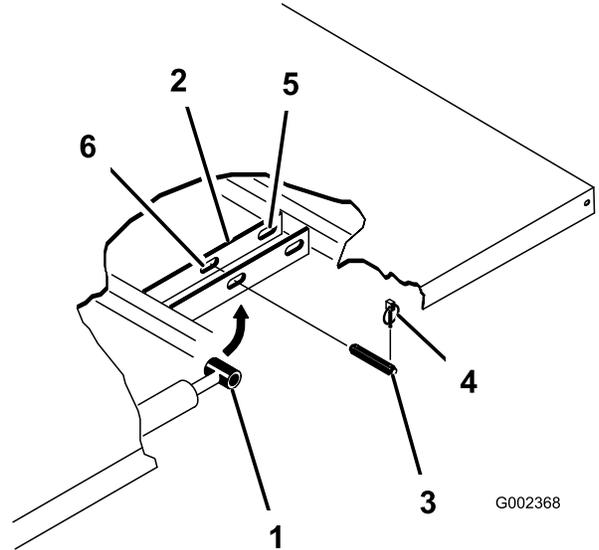

Figure 42
4. Remove the lynch pins from the outer ends of the cylinder rod clevis pins (Figure 42).
5. Remove the clevis pins securing the cylinder rod ends to the bed mounting plates by pushing the pins toward the inside (Figure 42).
6. Remove the lynch pins and clevis pins securing the pivot brackets to the frame channels (Figure 42).